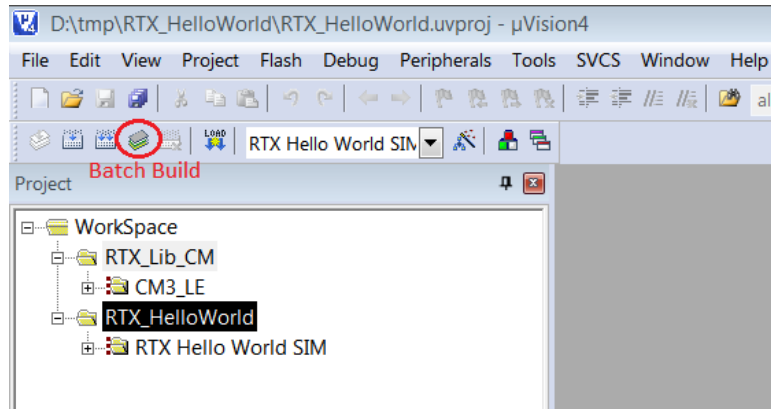
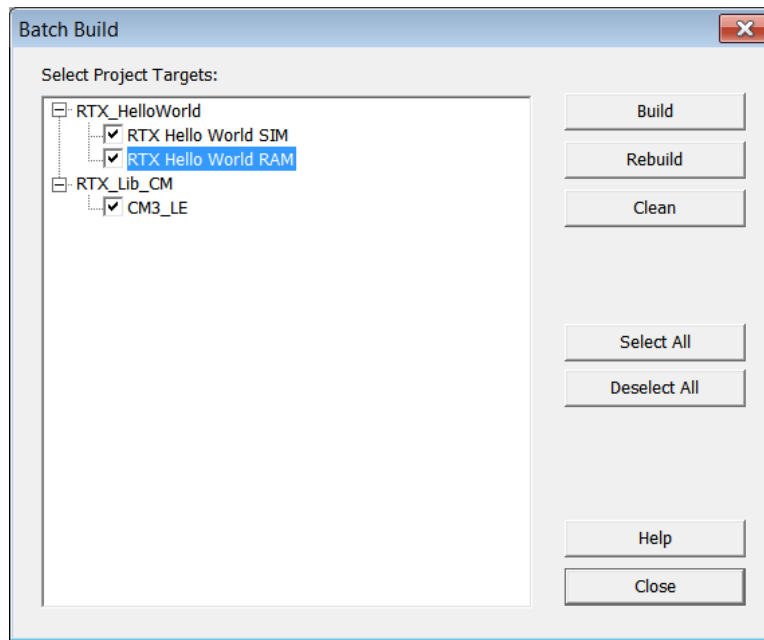

Figure 2.22: Keil IDE: Workspace with Two Projects
Figure 2.23: Keil IDE: Batch Build
4. Two projects appear under the Project Window (see Figure 2.22. Click the Batch Build button (see Figure 2.22 to bring up the Batch Build window. Select all the targets you want to build in a batch (see Figure 2.23). By setting up batch build, multiple targets can be built by a single click of the Build button inside the batch build dialogue box.